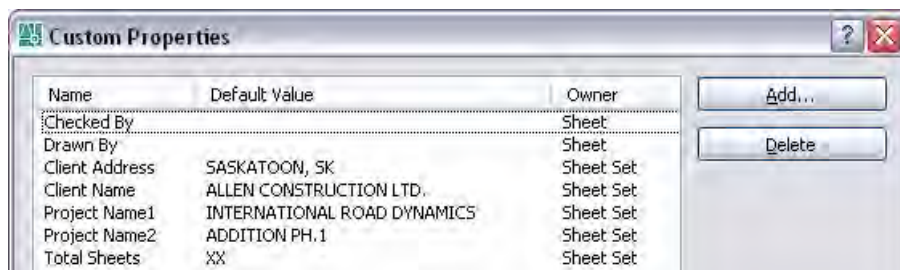

Figure 6.
- Choose Add to create the custom properties as indicated in Figure 6.